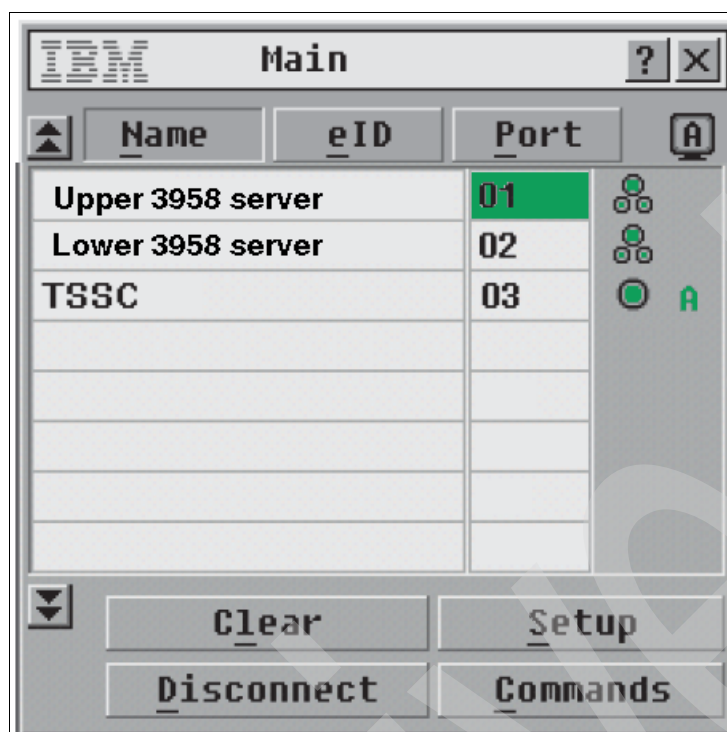

Figure 8-7 Main panel 3958 (Upper server selected)
1. On the TS3000 System Console (TSSC) keyboard, press **PrtSc** to launch the KVM switch's Main panel. The Main panel displays. You can select Upper 3958 server with the Up or Down arrow on the keyboard; see Figure 8-7.